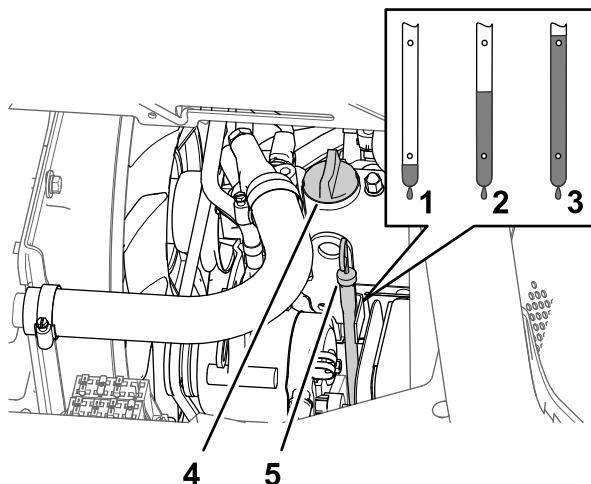

Figure 112
2. Remove the dipstick, located under the passenger seat, and wipe it with a clean rag (Figure 112).
3. If the oil level is low, remove the filler cap from the valve cover (Figure 112) and pour oil into the filler neck until the oil level is up to the Full mark on the dipstick.
4. Install the oil-filler cap (Figure 112).
5. Install the dipstick firmly in place (Figure 112).